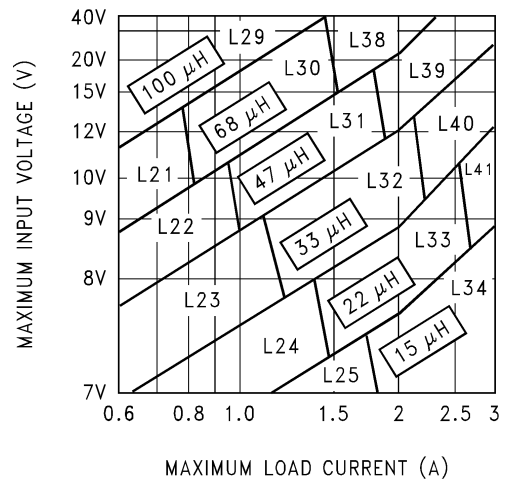
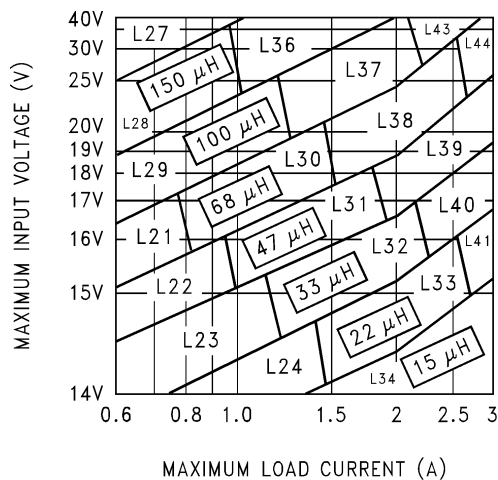

Figure 22. LM2596-5.0
Figure 23. LM2596-12
1. Inductor Selection (L1) A. Select the correct inductor value selection guide from Figures Figure 21 , Figure 22 , or Figure 23 . (Output voltages of 3.3V, 5V, or 12V respectively.) For all other voltages, see the Design Procedure for the adjustable version. B. From the inductor value selection guide, identify the inductance region intersected by the Maximum Input Voltage line and the Maximum Load Current line. Each region is identified by an inductance value and an inductor code (LXX). C. Select an appropriate inductor from the four manufacturer's part numbers listed in Table 3 .	1. Inductor Selection (L1) A. Use the inductor selection guide for the 5V version shown in Figure 22 . B. From the inductor value selection guide shown in Figure 22 , the inductance region intersected by the 12V horizontal line and the 3A vertical line is 33 μ H, and the inductor code is L40. C. The inductance value required is 33 μ H. From the table in Table 3 , go to the L40 line and choose an inductor part number from any of the four manufacturers shown. (In most instance, both through hole and surface mount inductors are available.)